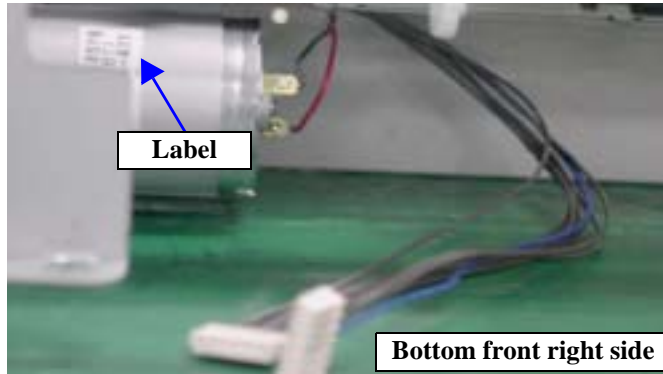

Figure 4-112. Installing the PF Motor
- When reinstalling the PF Motor, face the label of the PF Motor forward as seen from the printer front. Refer to Figure 4-112, "Installing the PF Motor".